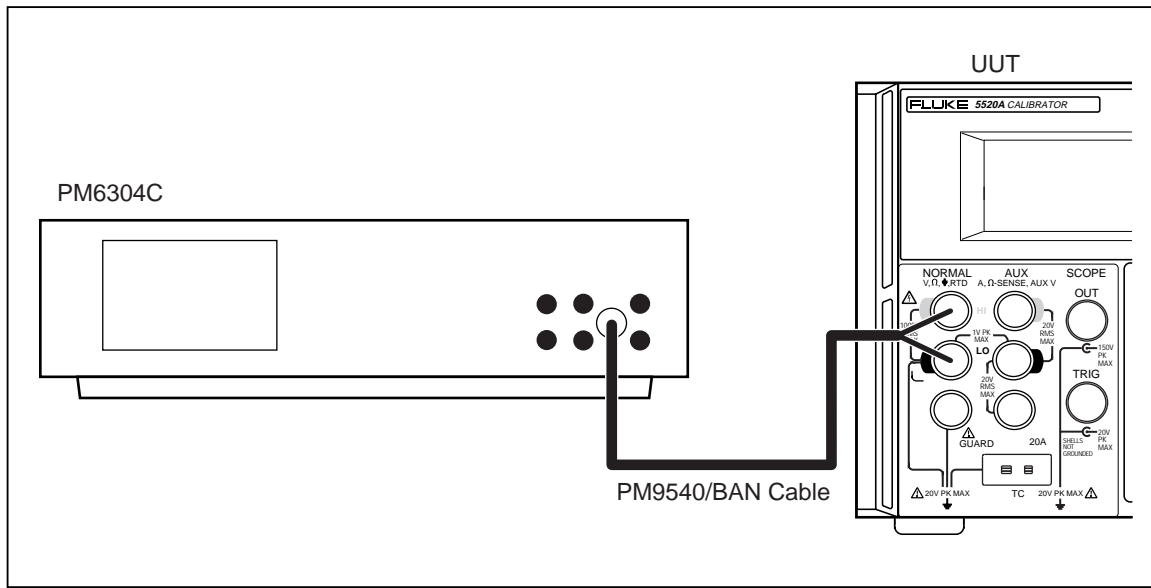

Figure 3-14. Connections for Calibrating Capacitance
1. Connect the UUT to the LCR meter using the Fluke PM 9540/BAN cables as shown in Figure 3-14. These special cables eliminate the need for a four-wire connection.